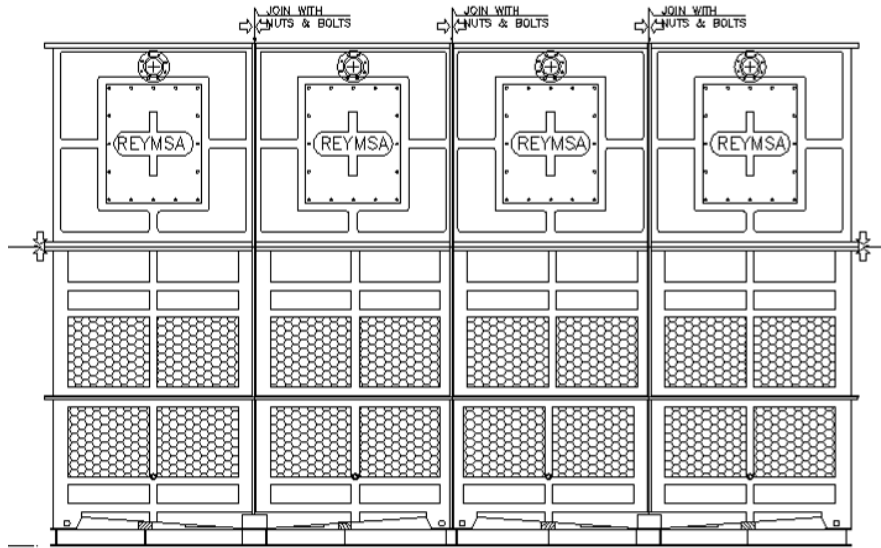

Figure A-29: Tower Body Section Installation
- K. Proceed to place **Tower Body Section 2** on top of Upper Air Inlet Section 2; make sure that the bolt holes are aligned. Bolt the vertical flanges between Tower Body Sections 1 & 2 together using first the galvanized steel bolts and nuts (supplied by REYMSA) to join sections. Then replace the galvanized steel bolts with the stainless steel nut and bolt sets supplied by REYMSA. Then proceed to bolt down and secure the horizontal flanges between Tower Body Section 2 and Basin Section 2, with the stainless steel nut and bolt sets supplied by REYMSA. Repeat until all Tower Body Sections have been installed (see Figure A-29).